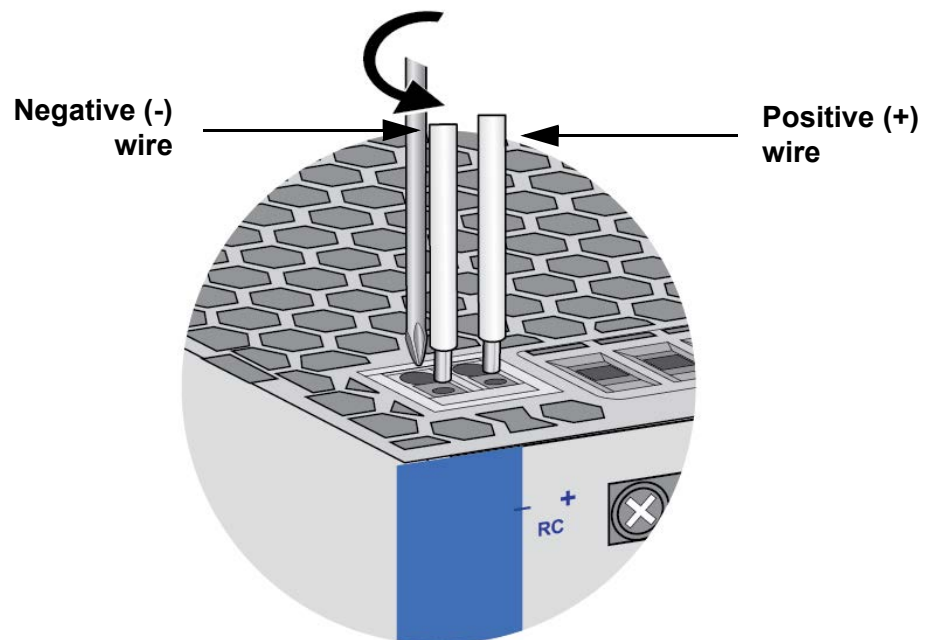

Figure 15. Wiring the RC Connector
2. Loosen the two RC connector screws on the top panel and insert the wires into the connectors. Refer to Figure 15.